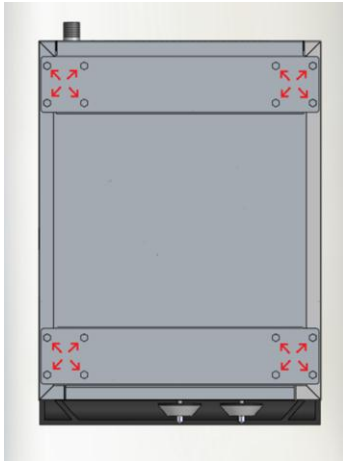

Fig. 1
2. Turn chassis up side down and locate the leg plate to a light the four screw holes (Fig.1).